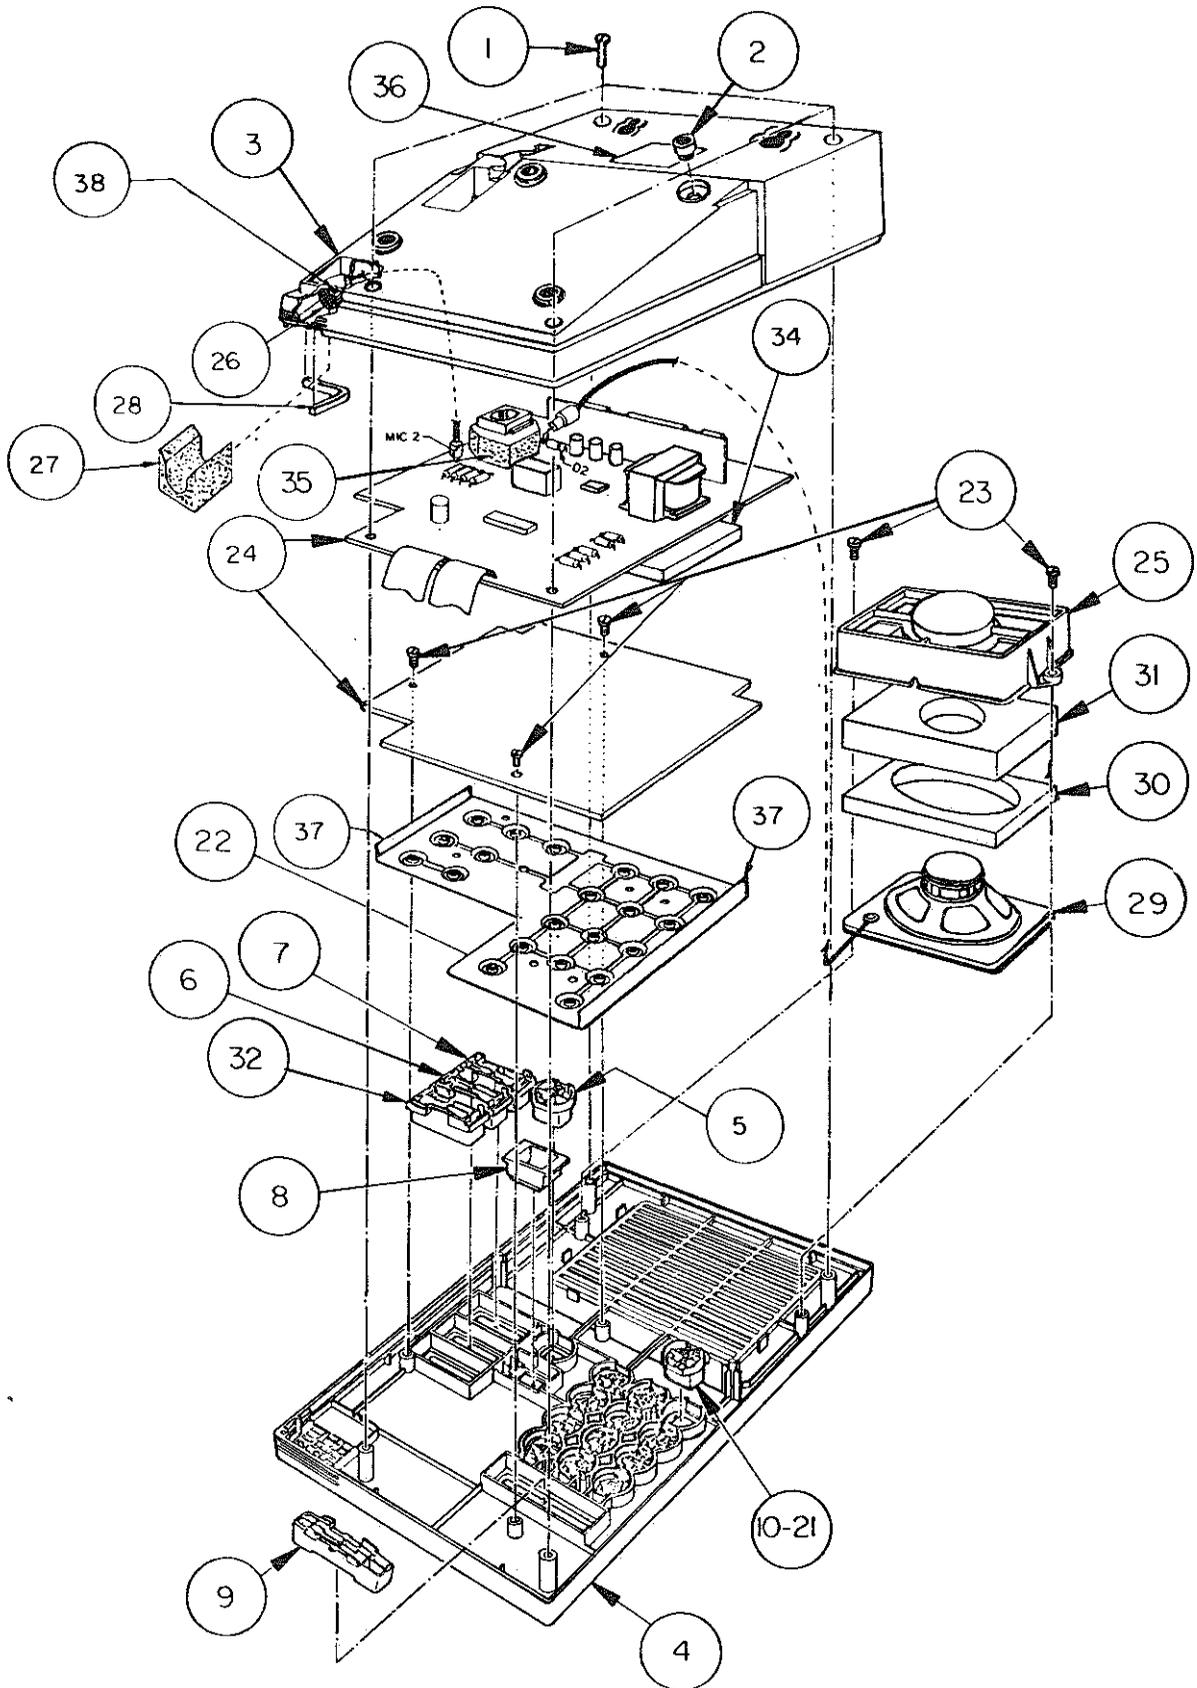

Fig. 3 — NT1L0601 Handsfree Assembly - Assembly of Parts
* Silver satin. ** Fig. 3 and Table B.